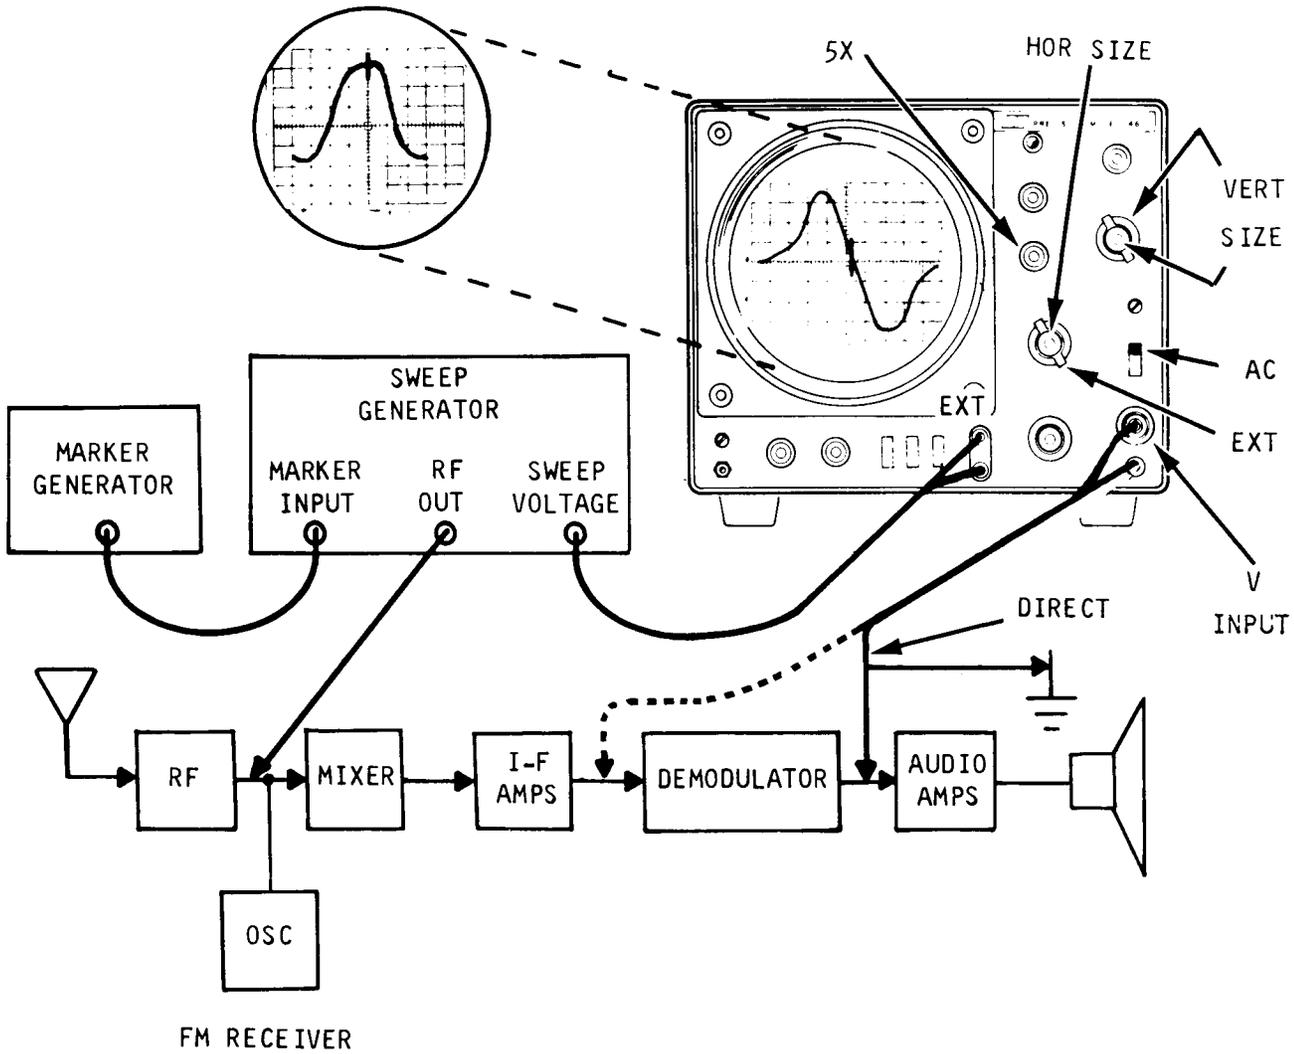

Figure 23. Typical FM Receiver Alignment Set-Up
Refer to Figure 23.
4. Adjust the oscilloscope vertical and horizontal gain controls for a display similar to that shown in Figure 23. The narrow bandpass is easier to interpret if 5X magnification is used.